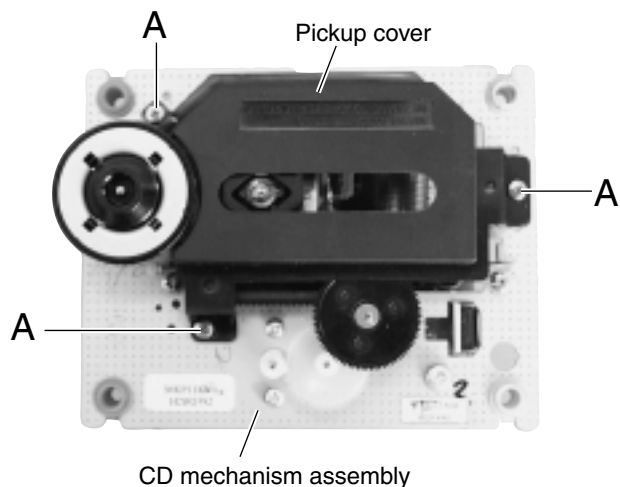

Fig.1
(See Figs. 1 to 3.)
1. Remove the three screws **A** retaining the CD pickup cover. (See Fig.1.)